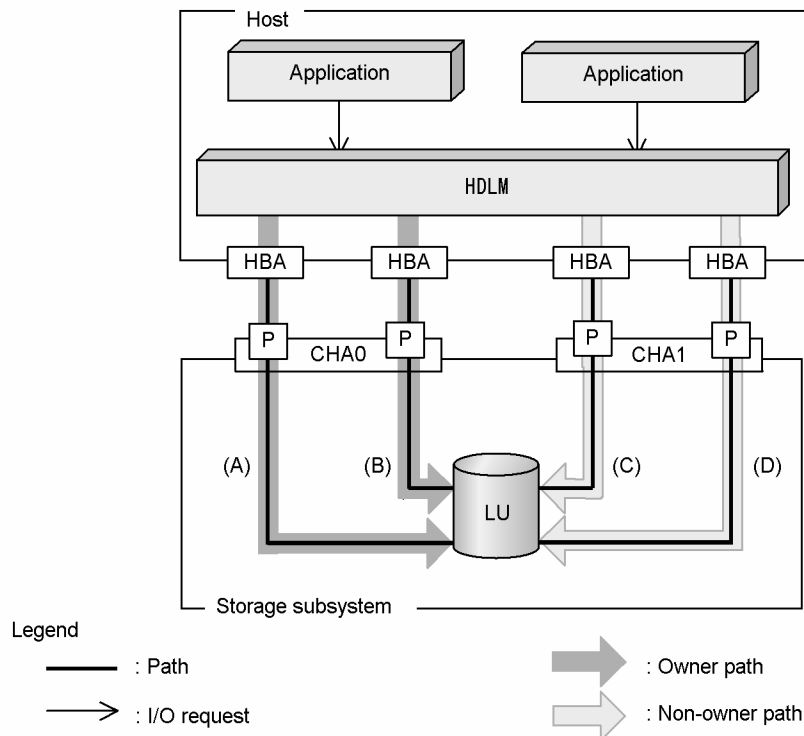

Figure 2.7 Overview of Load Balancing
For the example in Figure 2.7, suppose that the owner controller of LU0 is CHA0. When the LU is accessed, the load is balanced between the paths (A) and (B) (that is, between owner paths). When the path (A) cannot be used due to a problem such as a failure, the LU can only be accessed via the path (B). When the paths (A) and (B) cannot be used, the load is balanced between the physical paths (C) and (D) (that is, between non-owner paths).
All the online paths are owner paths. Therefore, for the example in Figure 2.7, when the LU is accessed, the load is balanced among the paths (A), (B), (C), and (D). When one of the paths cannot be used due to a problem such as a failure, the load is balanced among the remaining paths.